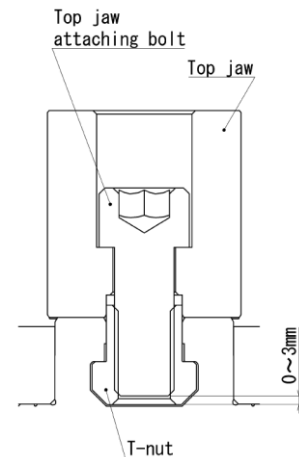

Fig.10
- If the screw-in depth of the jaw attaching bolt to the T nut is shallow, the T nut will break, and this is dangerous as the jaw and work will fly out. If the attaching bolt is too long and comes out from the bottom of the T nut as well, this is dangerous as the jaw and work will fly out since the top jaw is not fixed. Therefore, the overall length of the jaw attaching bolt must be approximately 0 to -3mm from the bottom of the T nut (Refer to Fig.10).